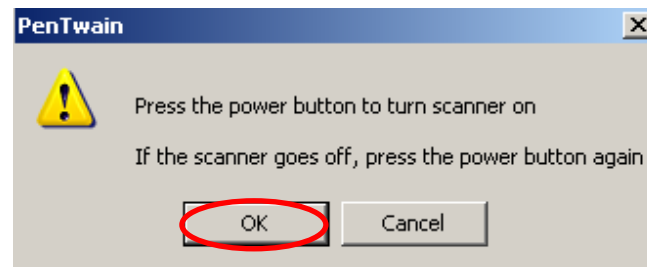

Fig 4
6. You will be prompted to turn the DocuPen ON. Press the **Power On** button on your DocuPen and Click **OK** in the **PenTwain** Dialog window (Fig. 4).